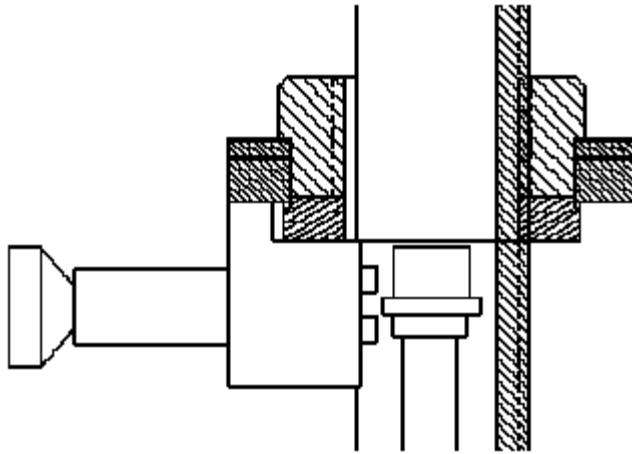

Figure 5. Insert Slide (Retracted Position)
5. Move the INSERT SLIDE to the RETRACTED POSITION by pulling back on the KNOB. (See **Figure 5**.)
7. Move the INSERT SLIDE to the RETRACTED POSITION. (See **Figure 5.**) Raise the SPINNER NUT until it clears the PROBE. Unlock the SWING ARM, and remove the Easy Tool from the PACKING BODY.
7. Move the INSERT SLIDE to the RETRACTED POSITION. (See **Figure 5**.) Raise the SPINNER NUT until it clears the PROBE. Unlock the SWING ARM and remove the Easy Tool.